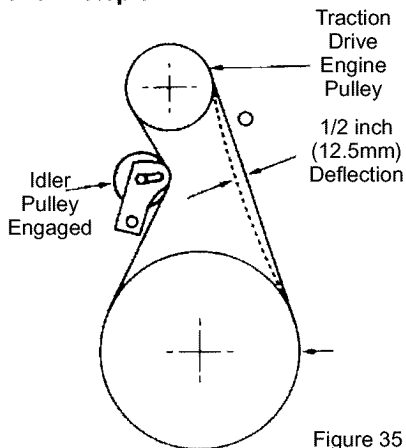

Figure 35
6. Have someone engage traction drive clutch. Check tension on belt (opposite idler pulley). The belt should deflect about 1/2 inch (12.5 mm) with moderate pressure (Figure 35). You may have to move idler pulley more than once to obtain the correct tension.